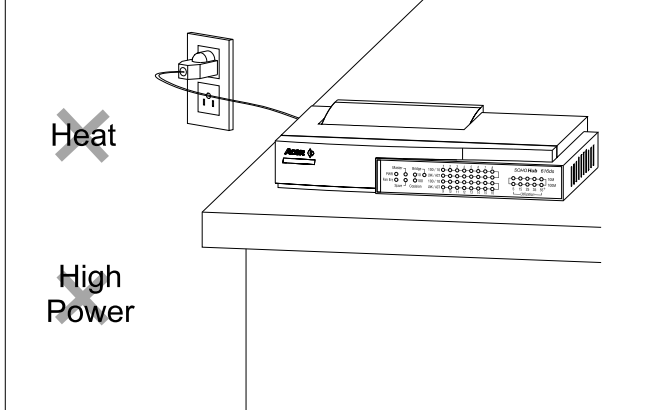

Figure 2-6 Lay hub on stable desktop
2.2.1 Put the hub on a stable working surface, as shown in Figure 2-6.